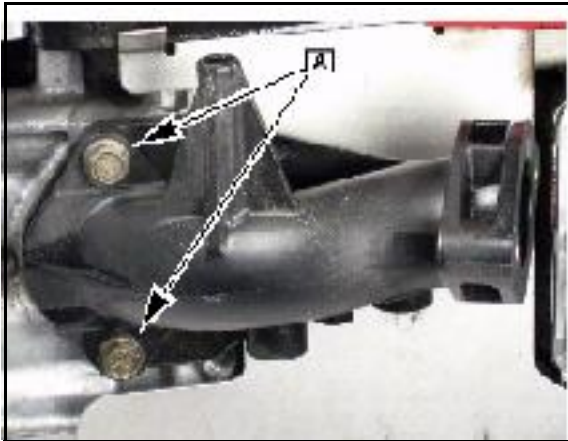

Fig. 24
10. Remove the two bolts that secure the air intake manifold to the crankcase ([A]Fig.24).